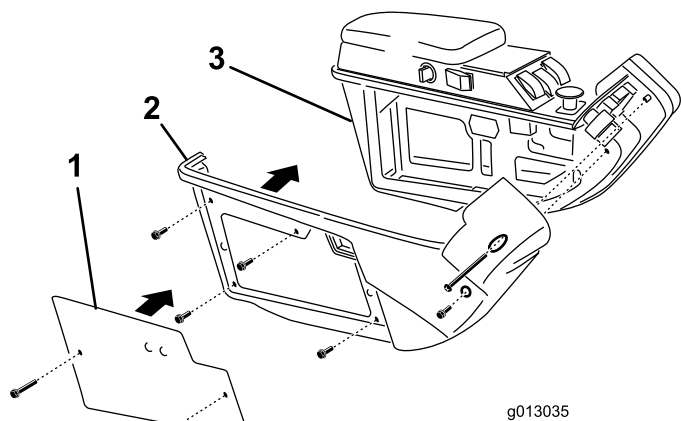

Figure 12
1. Remove the (2) screws that secure the plate to the right cover of the control arm (Figure 12).
2. Remove the (6) screws that secure the right cover to the right side of the control arm (Figure 12).